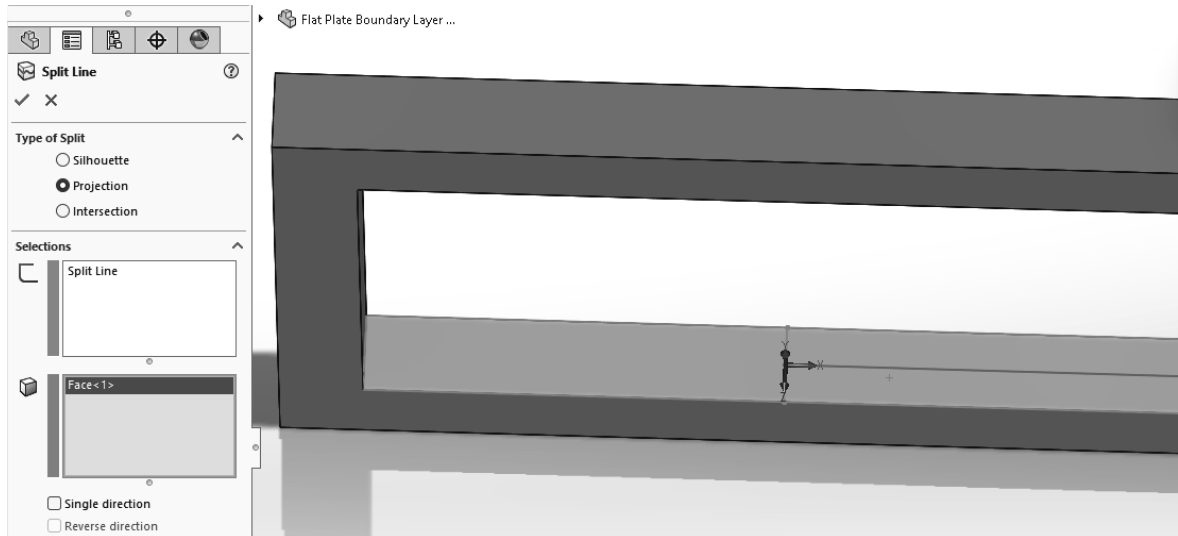

Figure 2.11 Selection of surface for the split line
11. For **Faces to Split**, select the surface where you have drawn your split line, see figure 2.11. Close the dialog ☒. You have now finished the part for the flat plate boundary layer. Select **File>>Save** from the SOLIDWORKS menu.